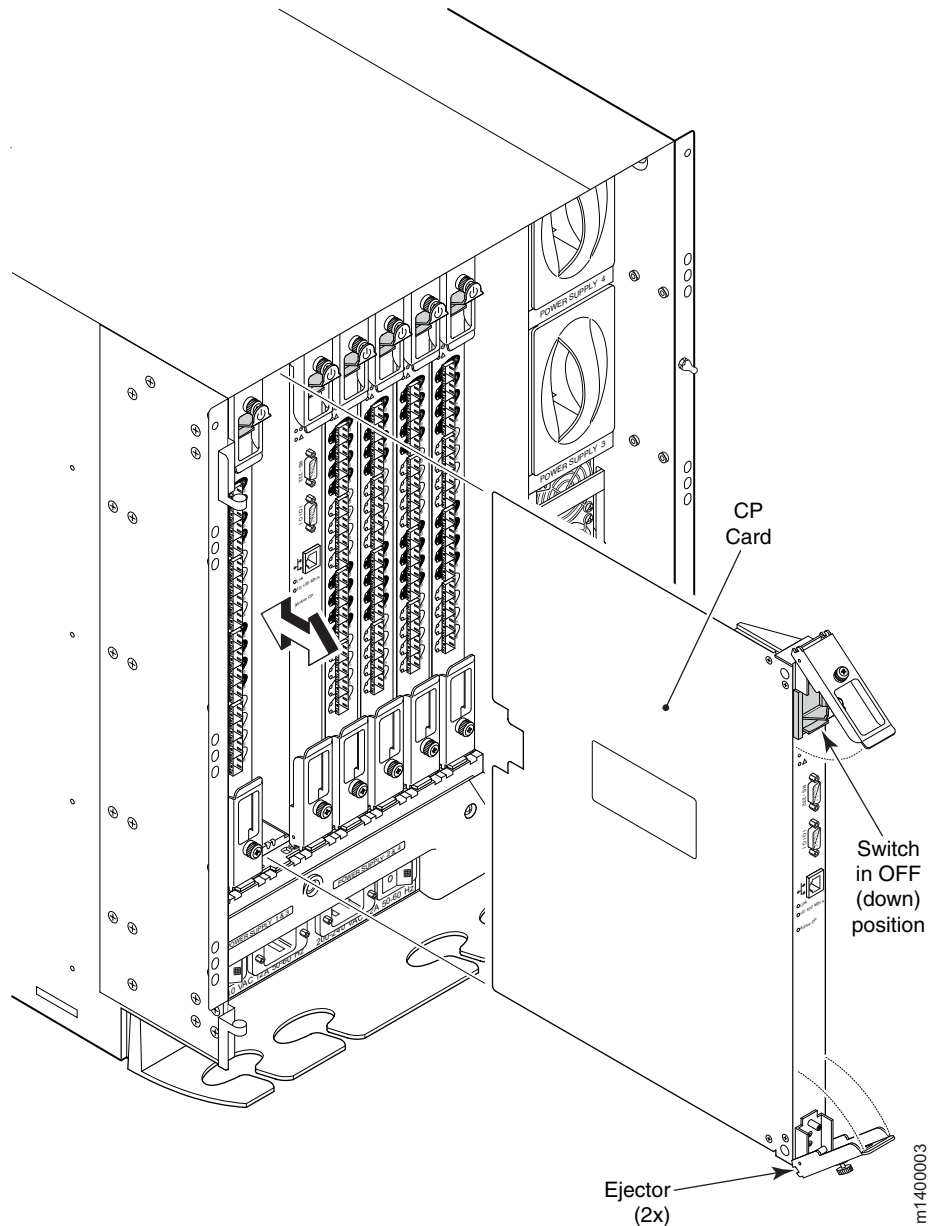

Figure 41. CP card removal and replacement
Use this procedure to remove and replace a control processor (CP) card from the M14. See Figure 41. Each M14 has two CP cards: one located in slot 5 and the other in slot 6.